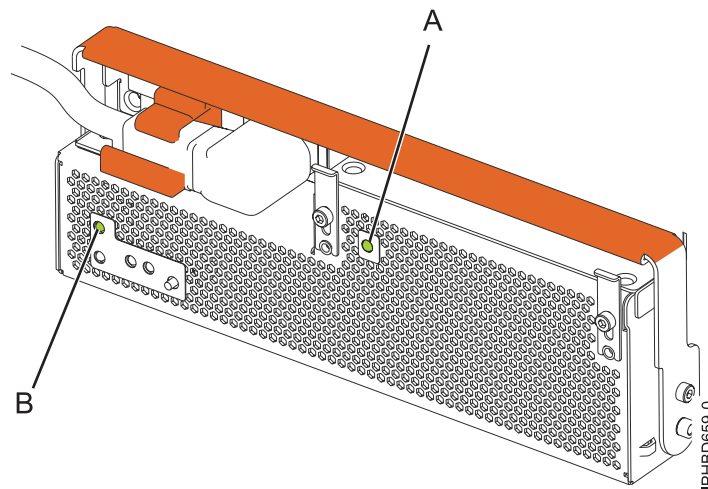

Figure 20. Expansion unit ac power and OCA power LEDs
10. Note the state of the green ac power in **(A)** and offline converter assembly (OCA) power **(B)** light-emitting diodes (LEDs) shown in Figure 20, and do one of the following actions, as applicable: